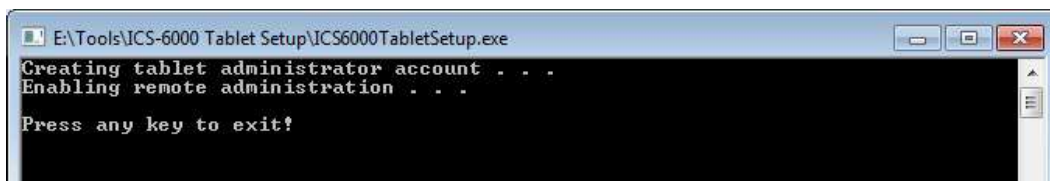

Figure 3-47. ICS-6000 Tablet Setup Utility Command Window
5. The utility begins running automatically. When installation is complete (within a few seconds, press any key to close the command window (see Figure 3-47).